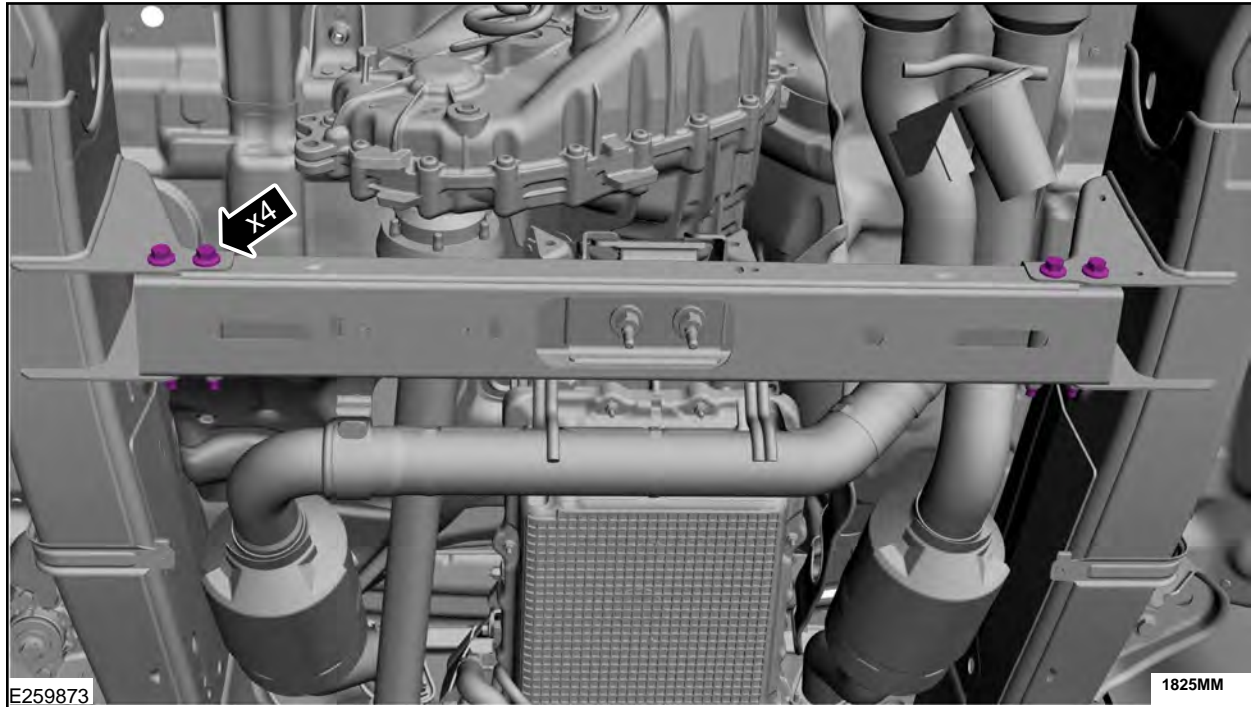

FIGURE 40
60. Install the transmission support crossmember nuts and bolts. See Figure 40.